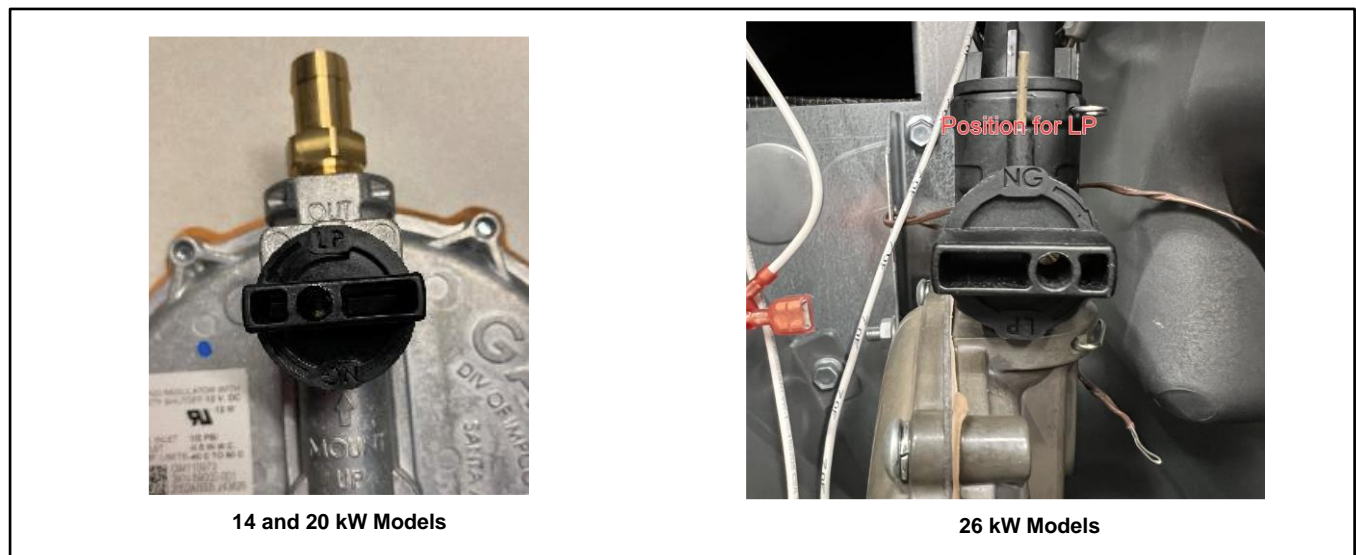

Figure 100 Knob Position, LPG
- b. For LPG, turn the selection knob counterclockwise as far as it will go, approximately ¼ turn. See Figure 100.